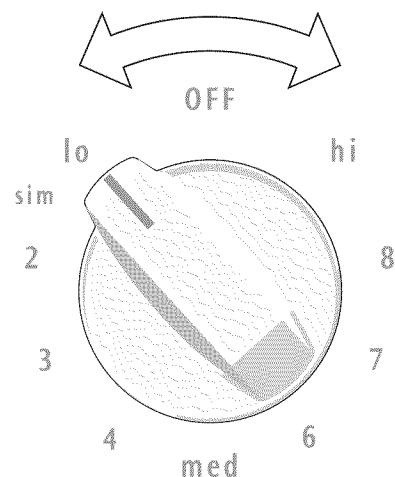

Fig. 1
2. Push in and turn the surface control knob in either direction to the desired setting. Start most surface cooking on a higher setting and then turn to a lower setting to finish. The surface control knobs do not have to be set exactly on a particular spot. Use the graphics provided as a guide and adjust the control knob as needed (Fig. 1). Each surface element provides a constant amount of heat at each setting. For more information see the **Suggested surface element settings table** (Fig. 2).